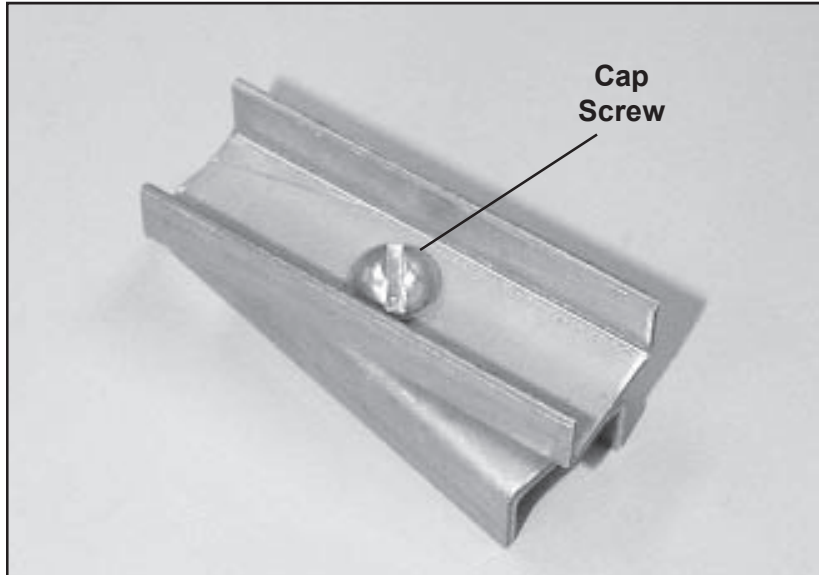

Figure 38. End Panel Bracket
End panel brackets (Figure 38) are used to fasten the end panel uprights to the cage arrangement. One bracket is required for Tier 1, and one additional bracket for each additional tier. Double the quantity of brackets required if end panels are used on both ends of the arrangement. The part number of the end panel bracket is 12130-00-AAAAAA.
1. With a flat-blade screwdriver, loosen the cap screw in one end panel bracket (Figure 38).